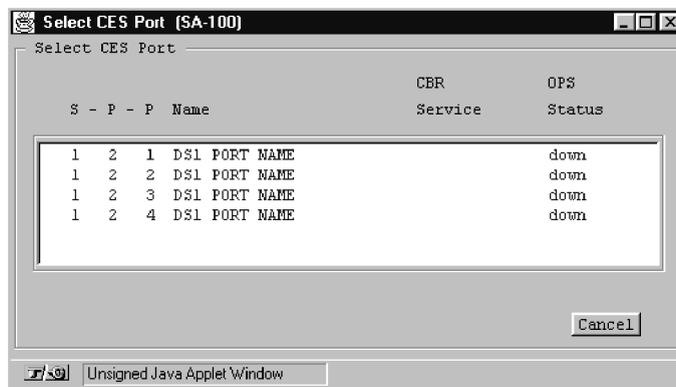

Figure 5-18. Select CES Port Window
2. Choose the Circuit Emulation (CES) button. The Select CES Port window appears (see Figure 5-18).